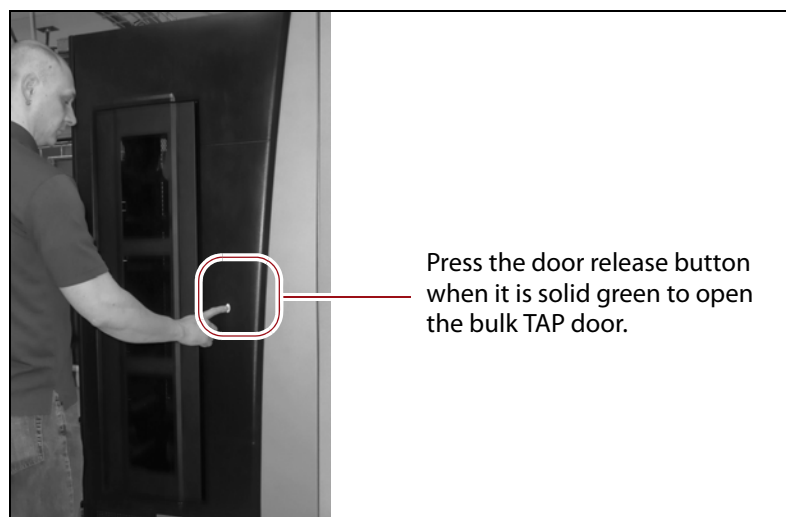

Figure 151 Press the door release button to open the door.
- c. When all of the magazines are retrieved or when the bulk TAP is full, the carousel rotates to face the outside of the library and the door release button LED turns solid green. Press the button to open the bulk TAP door (see Figure 151 on page 240).